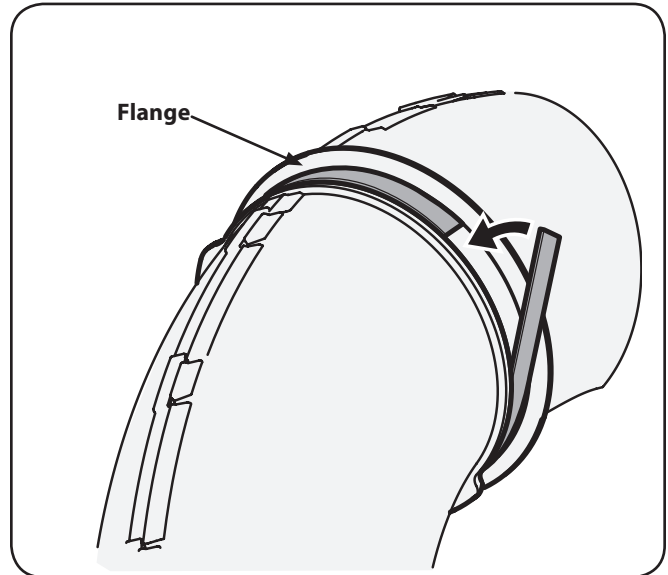

Figure 4-25
8. Peel the backing off of the self-adhesive foam strip (721-04388) that has been included with your grass collector. Apply it to the upper chute, flush against the flange as shown in Figure 4-25.